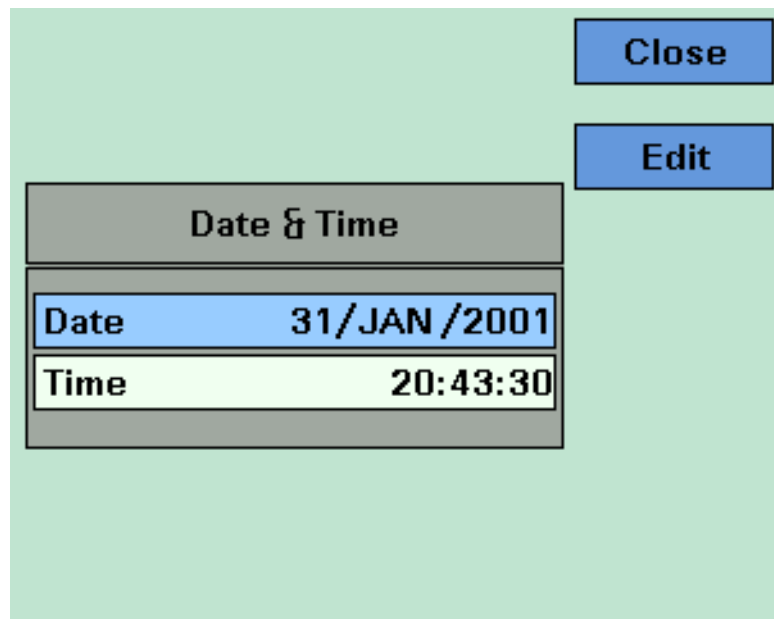

Figure 29 Editing the Date and the Time
- 2 Move to the *<Date & Time>* menu option and press *Enter*. You see a box, similar to Figure 29 , displaying the current date and time settings.